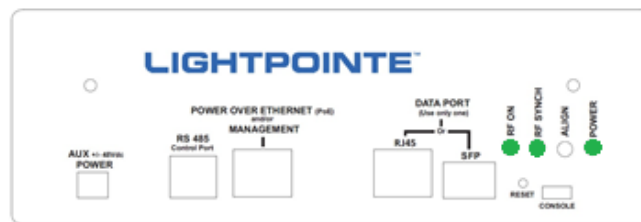

Figure 5-19: Default User Panel status after successful alignment
11. When looking at the user panel (see Fig. 5-19) the following LEDs should be on:
To connect to the LinkManager™ browser-based management application, connect an Ethernet cable to the *Power-over-Ethernet and Management Port* located on the radio back panel (see Fig. 5-19) and open a web-browser on the same subnet as the Aire unit and enter the IP address of the AireLink unit in the address/URL field.